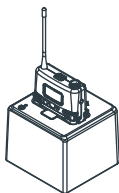
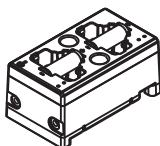

Fig. 28:
Fig. 30: 18500 rechargeable
1. Transmitter(s) can be inserted into single-docking or dual-docking battery chargers (Fig. 28 & 29) or 18500 rechargeable battery can be recharged in dual-docking battery charger (Fig. 30).
2. MP-8 single-docking battery charger, Fig. 28.